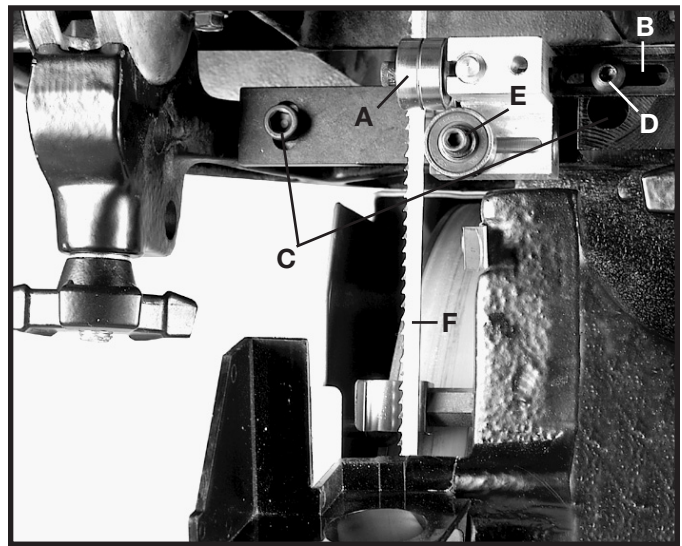

Fig. 27
1. The lower blade guides (A) Fig. 27, are held in place by means of the cap screws (C) Fig. 27. Loosen the cap screws (C) to remove the guides for maintenance. Note: Lower the chip chute out of the way.
2. The complete lower guide block assembly bracket (B) Fig. 27 can be moved in or out by loosening the button head screw (D) Fig. 27. The guides (A) Fig. 27, should then be adjusted so that the front edge of the guide roller bearings are just behind the "gullets" of the saw teeth (F) Fig. 27. Be careful not to pinch the blade.
4. The rear lower blade support bearing (E) Fig. 27 should also be adjusted so it is a couple of thousandths away from the back edge of the blade. The lower blade support bearing, prevents the blade from being pushed too far to the rear which could damage the set in the saw teeth.